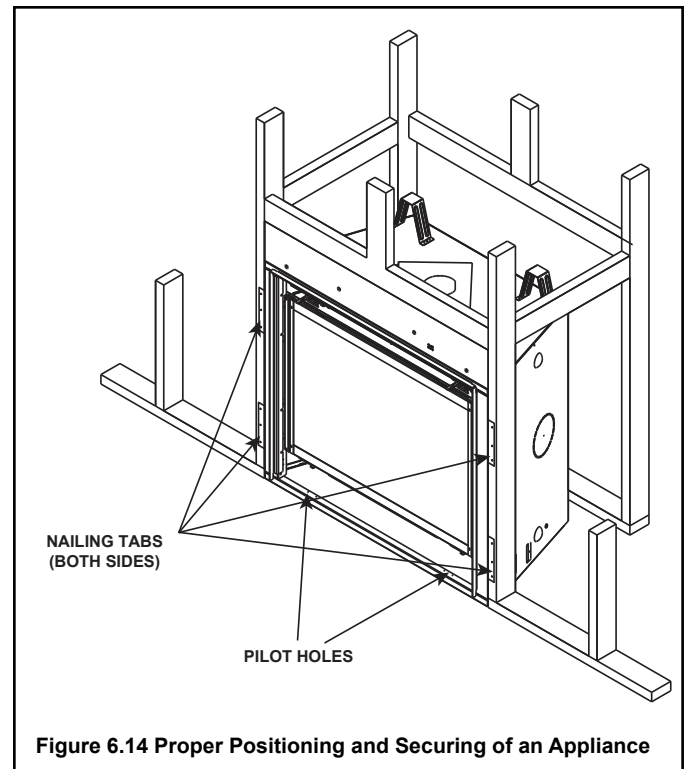

Figure 6.14 Proper Positioning and Securing of an Appliance
- “Square” the unit by securing diagonal dimensions to within 1/4 inch of each other. See Figure 6.14.